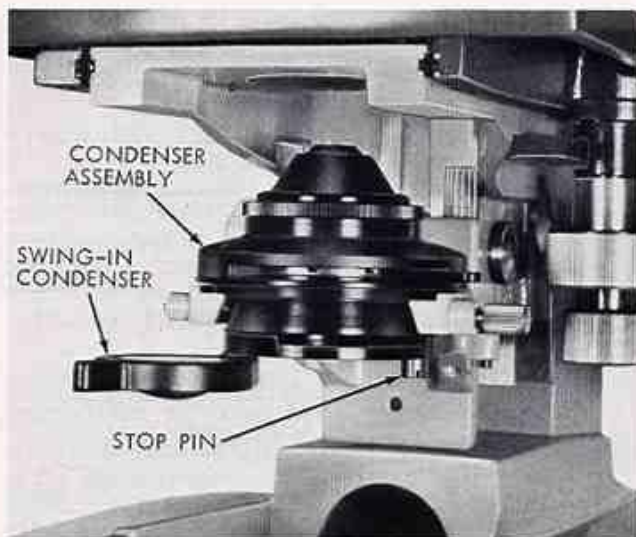

Figure 19. Auxiliary Swing-in Condenser
- d. Auxiliary Swing-in Condenser, Cat. No. 1085. This condenser (figure 19) permits filling the entire field of the 2.5X and 4X scanning objectives when using the No. 1031 or 1036A In-Base Illuminators, or when using external illuminators with the plano mirror. It is not required when the microscope is equipped with on-base illuminators, Cat. No. 1034 and No. 1037.